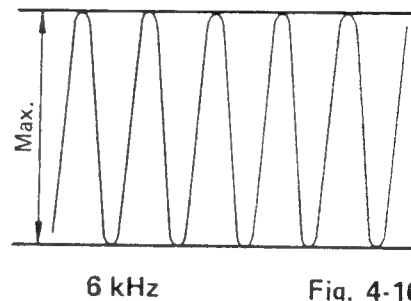

Fig. 4-16
5. Adjust screw (C) to obtain maximum audio output level (Fig.4-16/17)
7. Adjust screw (B) to obtain maximum audio output level. (Fig.4-16/17)